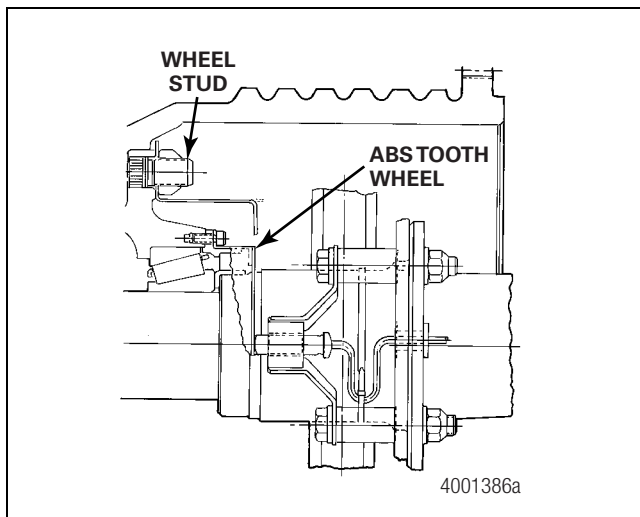

Figure 3.11
3. If it is necessary to remove the wheel studs from the hub, remove the nuts from the inside of the hub flange. Remove the oil deflector, if used. Place the hub into a press with the drum mounting surface supported by the press. Press the studs through the hub. Figure 3.11.
4. The wheel seal is located in a seal retainer located below the ABS tooth wheel. Remove the capscrews that secure the ABS tooth wheel and the seal retainer to the hub. Figure 3.11.